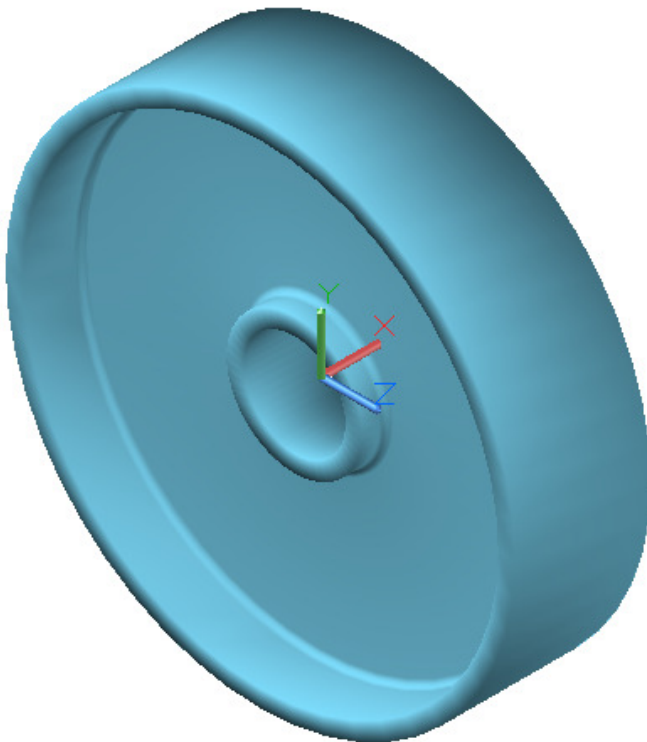

Figure Step 2
Step 2 Create a surface revolution on layer: Surface 1. (Figure Step 2)